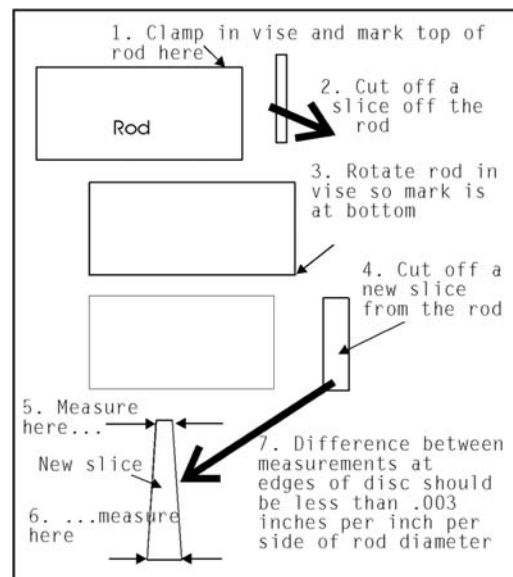

Figure 22: Making a test disc.
1. With the bar stock securely clamped in the vise, make a cut through the bar stock. (See *Figure 22*.)